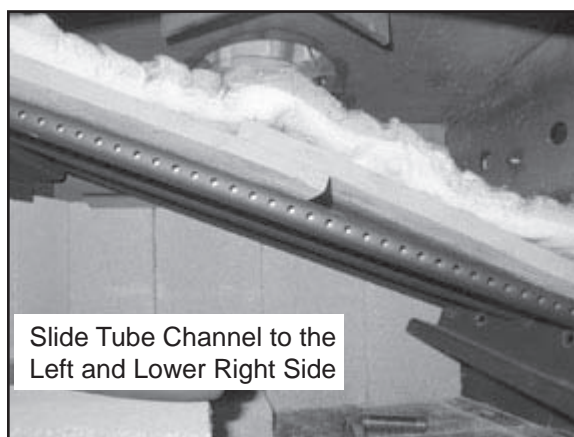

Figure 23.4
4. Slide the tube channel assembly to the left as far as it will go and lower the right side. Remove the baffle boards and ceramic blanket together. **Figure 23.4**.